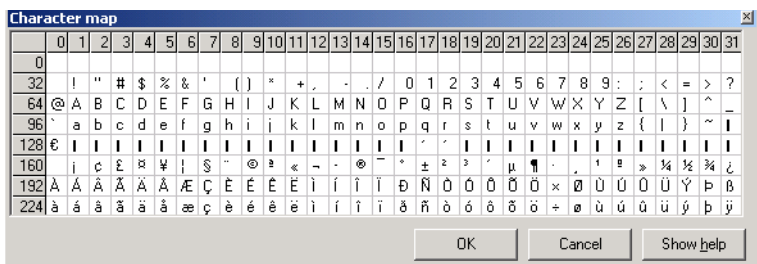

Figure 12. Character Map
1. Click **Character map**. This displays the Character map dialog, Figure 12.